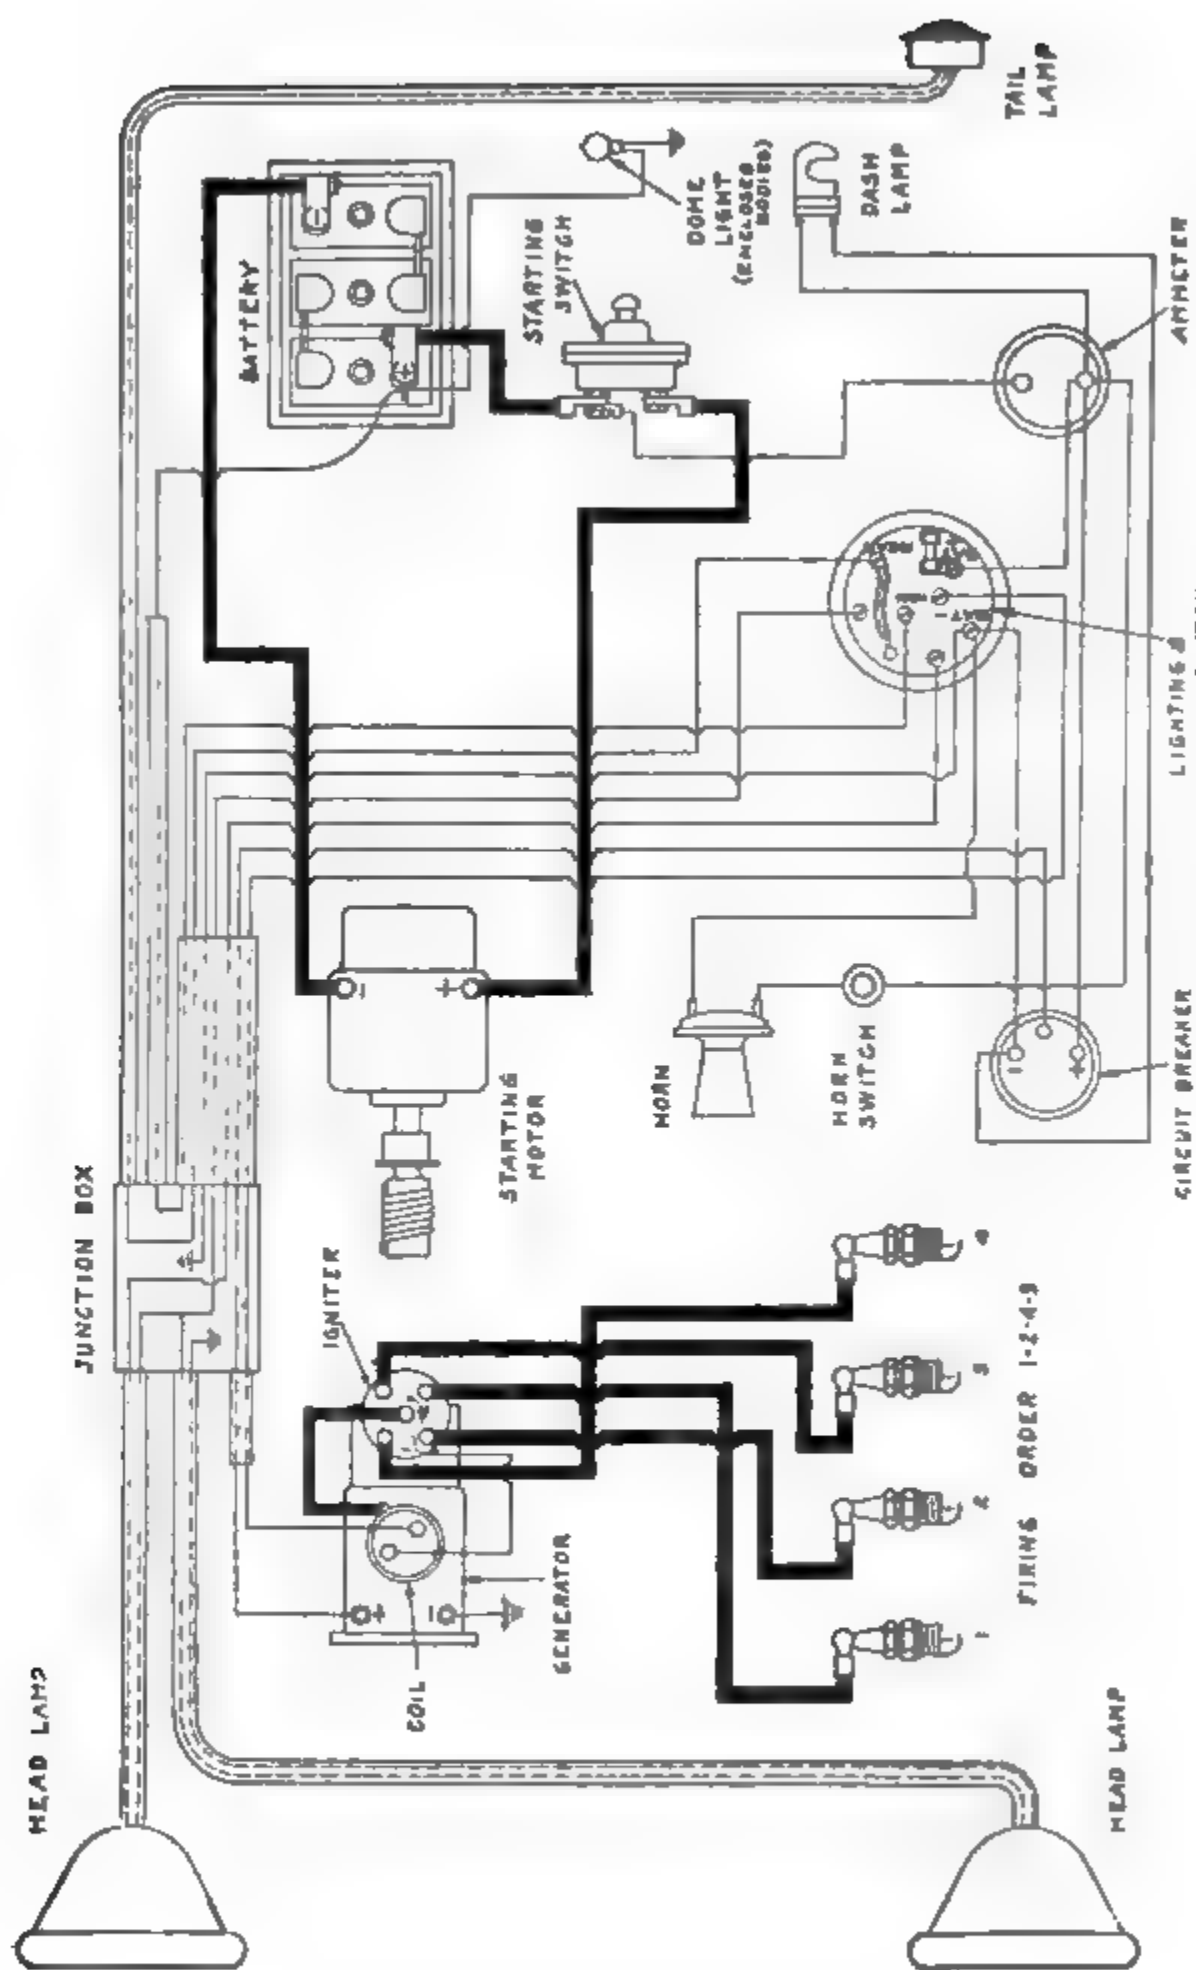

Fig. 220. Governor of Auto-Lite Permanent-Magnet Type Generator
**Regulation.** The current output of the permanent-field type is regulated by a centrifugal governor; it should not drop below 10 amperes, nor exceed 12 amperes. Any falling off can be remedied frequently, simply by cleaning the governor out thoroughly with gasoline, allowing it to dry, and giving it a drop or two of light oil; if this does not increase the output sufficiently, the weights can be moved inward an eighth of an inch or more to decrease the pressure on the springs mounted in the governor arms, Fig. 220. This per-